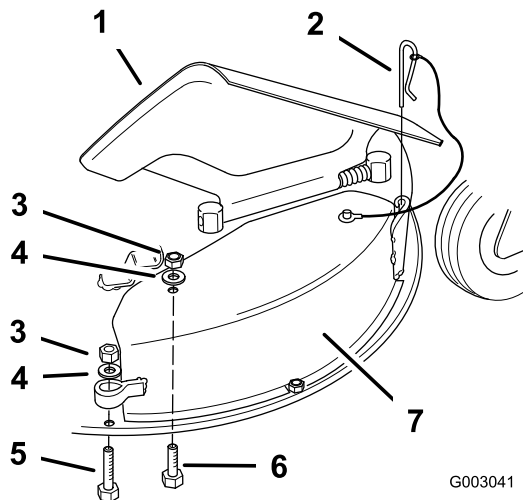

Figure 52
4. Raise the grass deflector and remove the chute pin on the front of the discharge cover (Figure 52).
5. Remove the locknut, flat washer, and bolt (5/16 x 1-1/4 inches) holding the top of the discharge cover to the top of the mower (Figure 52).
6. Remove the locknut, flat washer, and bolt (5/16 x 2-1/4 inches) holding the loop on the rear of the discharge cover to the deck ring (Figure 52).
7. Remove the discharge cover from the mower (Figure 52).